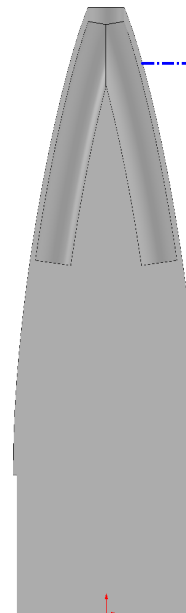
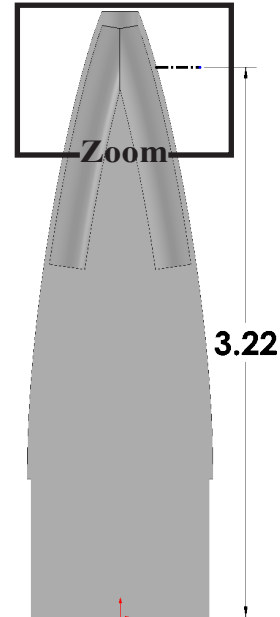

Fig. 28
Fig. 29
Step 3. Sketch **horizontal construction line out from right silhouette edge**, **Fig. 28**.
Step 4. Click **Smart Dimension**  (S) on the Sketch toolbar.
Step 5. Dimension line **3.22** to Origin , **Fig. 29**.
Step 6. Zoom in around **top of Nose Cone at left end of construction line**, **Fig. 29**. To zoom, place the cursor over the top of Nose Cone and spin the wheel on mouse back. While spinning the wheel keep cursor on the area.